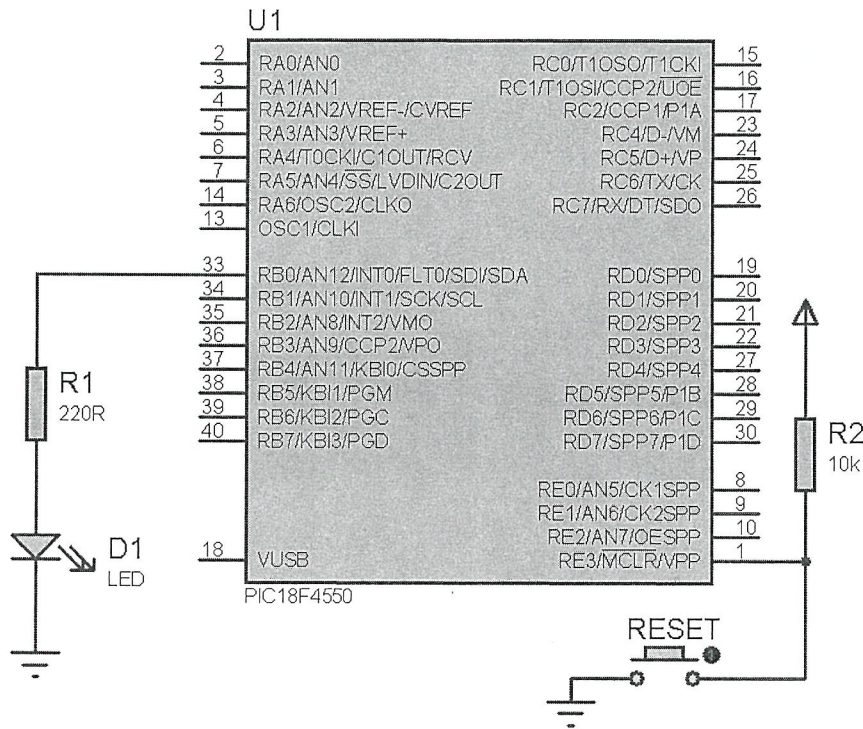

Figure Q1(d)
- (d) If the PIC 18F4550 is connected to a LED as shown in **Figure Q1(d)**. Write a simple program to blink the LED every 100 ms using specifications as in **Question 1(b)**. (7 marks)